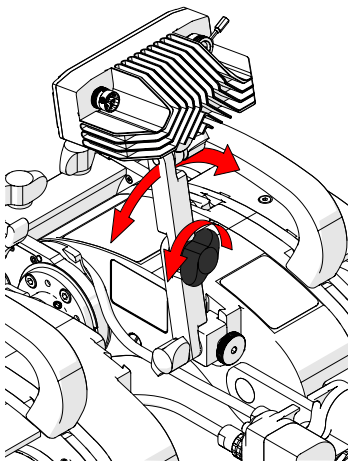

Fig. 23 - Adjust horizontal angle
3. Loosen the middle wing knob to adjust the camera's horizontal angle (Fig. 23).